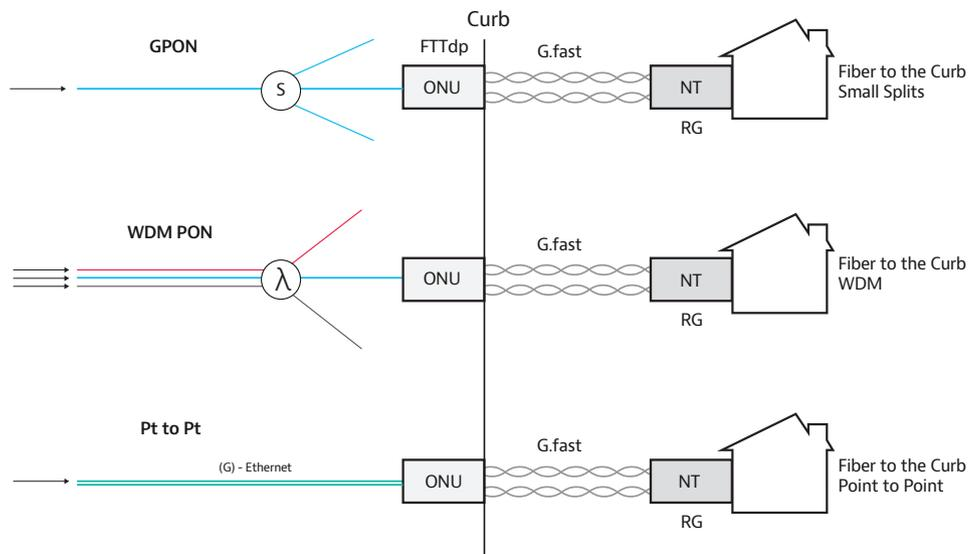

Figure 13. G.fast/optical network configurations
G.fast is the short name given to work in the ITU to define a new copper transmission technology focused on providing much-higher bandwidth over copper loops out to 650 feet (200 meters). G.fast achieves this performance, in part, by increasing the signal spectrum to 200 MHz—although the exact spectrum has not yet been defined. The concept includes FTTCurb designs to achieve the very short loop lengths. The term FTTCdp (distribution point) describes a new type of ONU, shown in Figure 13.